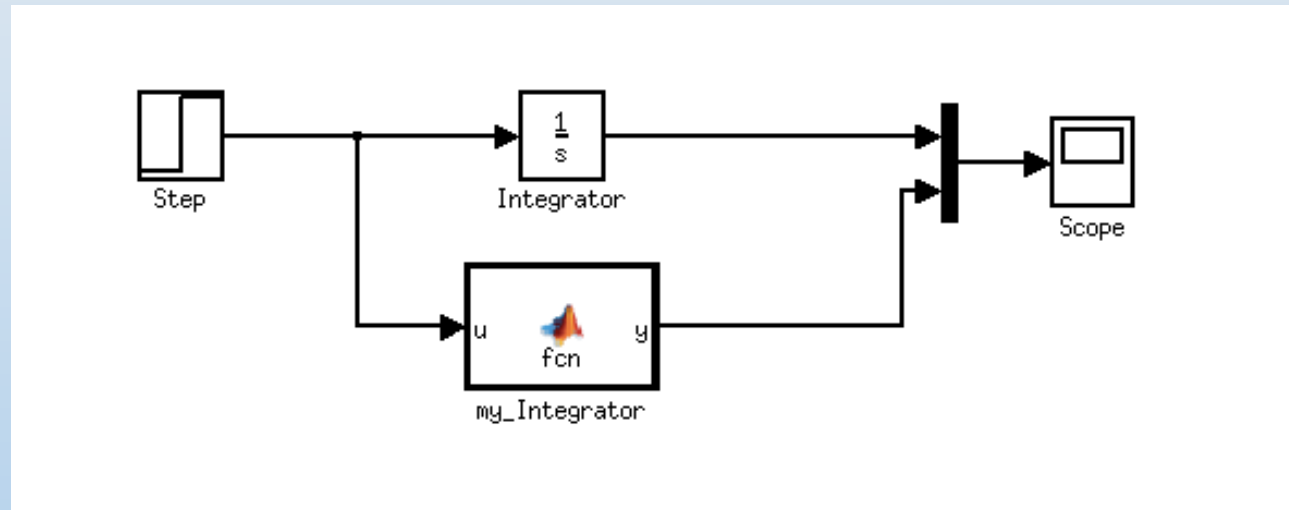

Fig. 3
- **Step 3** : Open the Linear block library, as shown in Fig. 3, and drag a Transfer Fcn block to the model window. Double click on the Transfer Fcn block to set up the appropriate parameters. Assume zero initial conditions; for non-zero IC transfer fn. blocks, check the Simulink Extras set.